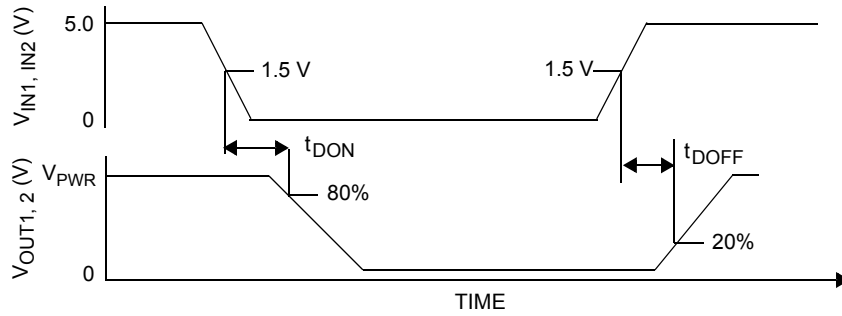

Figure 4. Output Delay Time
- Output Delay is the time duration from 1.5 V on the IN1 or IN2 input signal to the 20% or 80% point (dependent on the transition direction) of the OUT1 or OUT2 signal. If the output is transitioning HIGH-to-LOW, the delay is from 1.5 V on the input signal to the 80% point of the output response signal. If the output is transitioning LOW-to-HIGH, the delay is from 1.5 V on the input signal to the 20% point of the output response signal. See Figure 4, page 10.